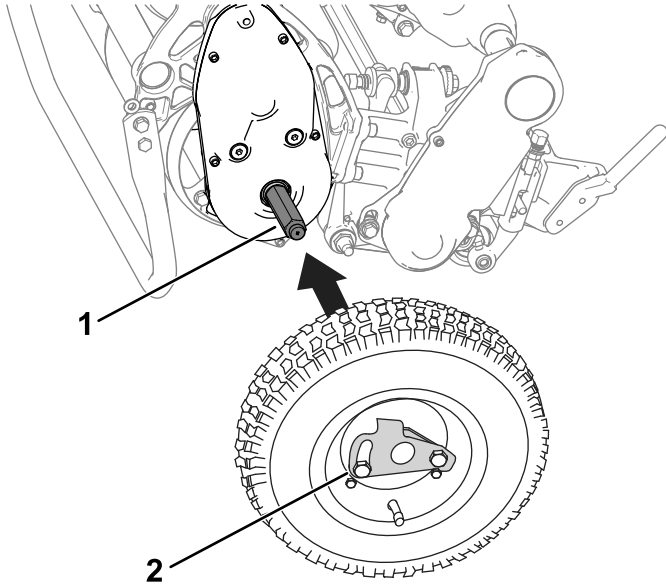

Figure 23
2. Slide a wheel onto an axle (Figure 23).
3. Pivot the wheel-locking clip (Figure 23) away from center of the wheel, allowing it to slide farther onto the axle.